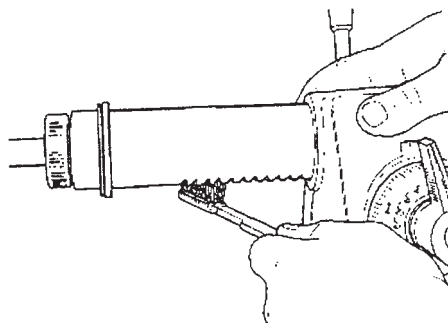

Figure D-7
- b. **Quill** - Extend the quill as far as it will go, lock it in place, then wax. After waxing, brush the rack with a stiff brush to remove all the residue between the teeth. See Figure D-7.